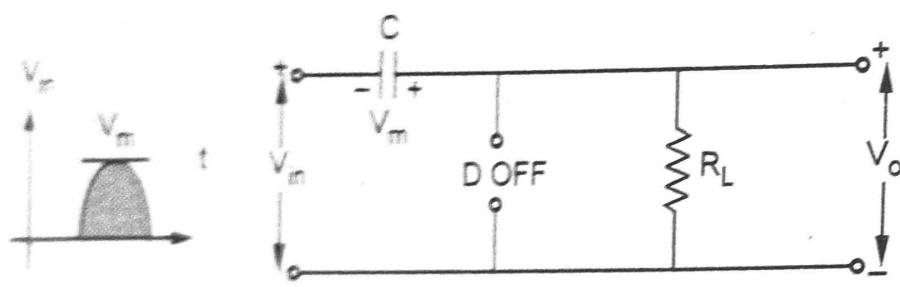

Fig. Q.50.3
- In the positive half cycle, the diode D is reverse biased. The capacitor starts discharging through R_L . But due to large time constant, it hardly gets discharged during positive half cycle of V_{in} . This is shown in the Fig. Q.50.3.